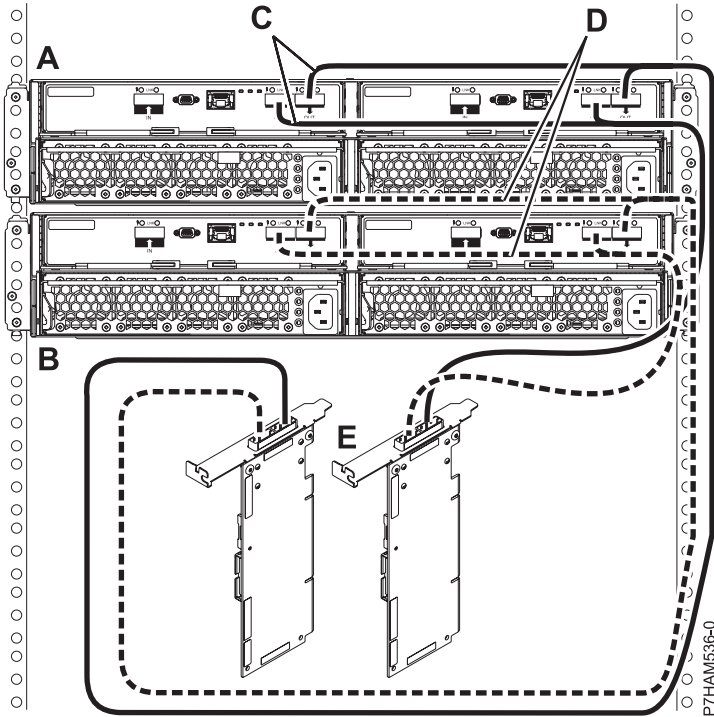

Figure 39. Mode 1 connection of two 5887 disk drive enclosures by using YO cables to a SAS adapter pair
16. Perform the mode 1 connection of two enclosures (A and B) by using YO cables (C and D) to a SAS adapter pair (E). See Figure 39 on page 39.